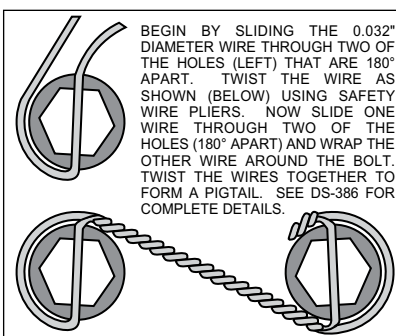

Figure 3. Safety Wire Diagram
•With the larger I.D. side of the rotor (7) facing away from the hat (8), bolt rotor (7) to the hat (8) through the backside of the rotor using washers (9) and bolts (10). Apply red *Loctite*® 271 to the bolt threads and torque to 155 in-lb using a criss-cross pattern. For an added measure of security, the bolts may be safety wired using standard 0.032 inch diameter stainless steel safety wire as shown in Figure 3. Please refer to Wilwood’s data sheet DS-386 (available at www.wilwood.com/Pdf/DataSheets/ds386.pdf) for complete safety wire installation instructions.